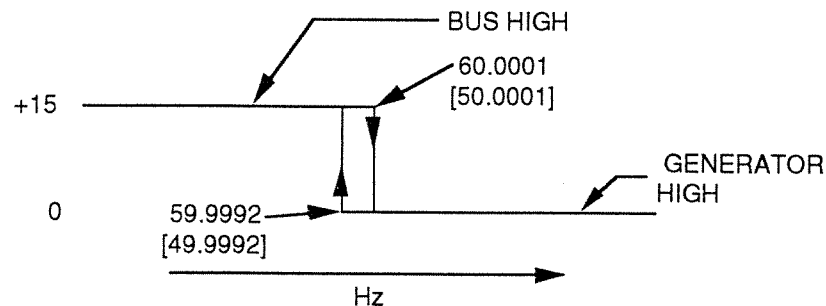

FIGURE 3 Frequency Indication Signal at D65
5. Move the scope probe to D65 anode and slowly raise the generator frequency. The signal should go "low" as the generator frequency passes 60.0001 [50.0001] Hz ± 0.0005 , -0.0000 Hz, as shown in Figure 3. The **GENERATOR FREQUENCY HIGH** LED should be lit. Slowly reduce the generator frequency. The signal should go "high" as the generator frequency drops below 59.9992 [49.9992] Hz ± 0.0005 Hz. The **BUS FREQUENCY HIGH** LED should be lit.